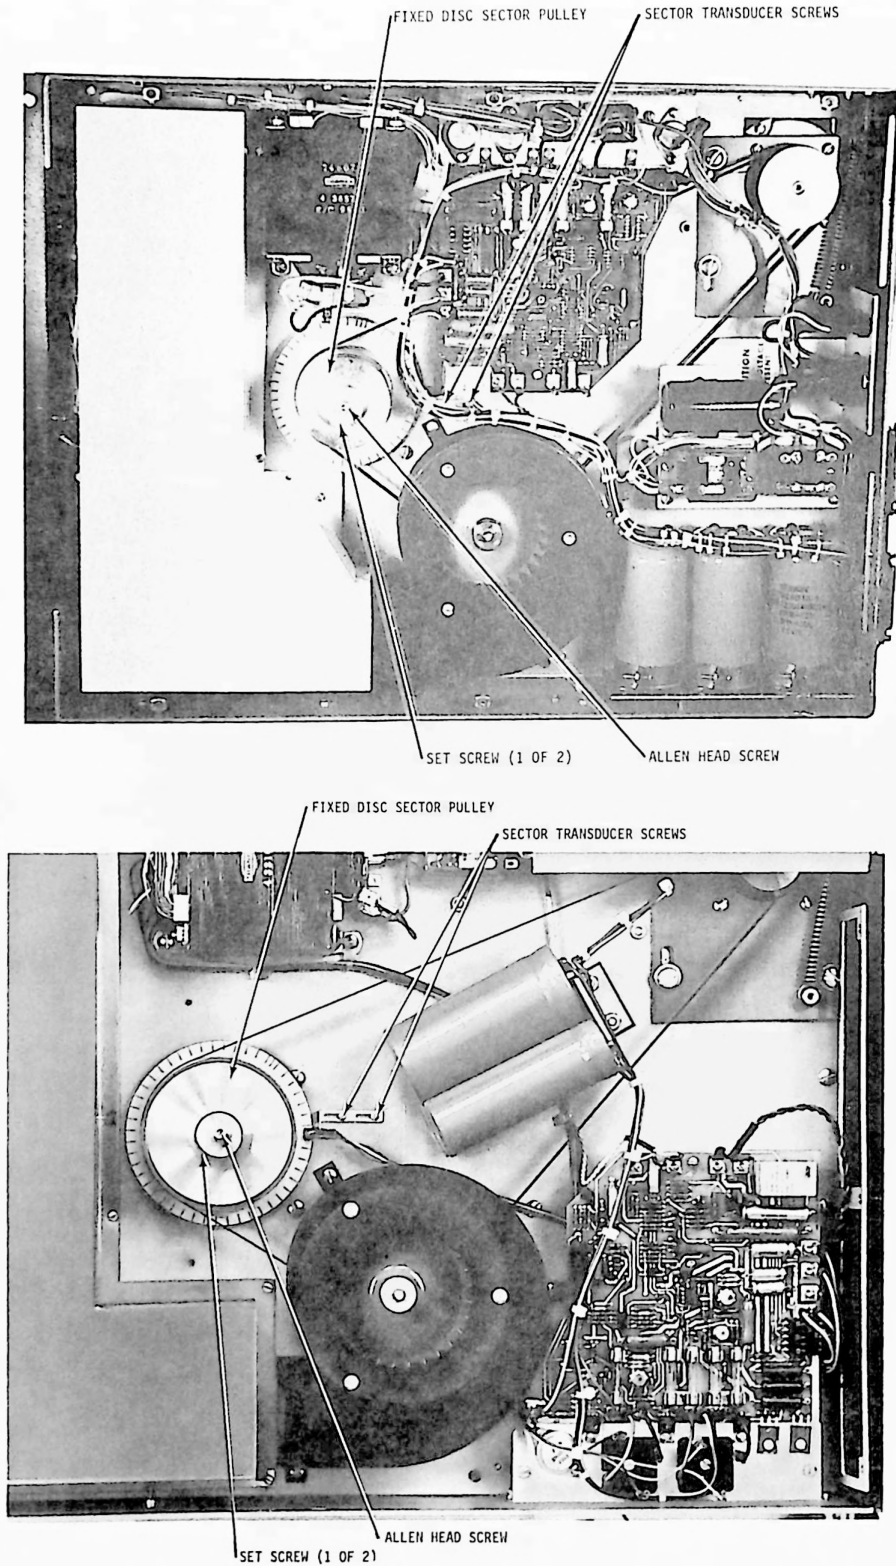

Figure 3-30. Fixed Disc Removal; Fixed Disc Sector Transducer and Sector Pulley
5. Remove fixed disc sector pulley assembly (figure 3-30).